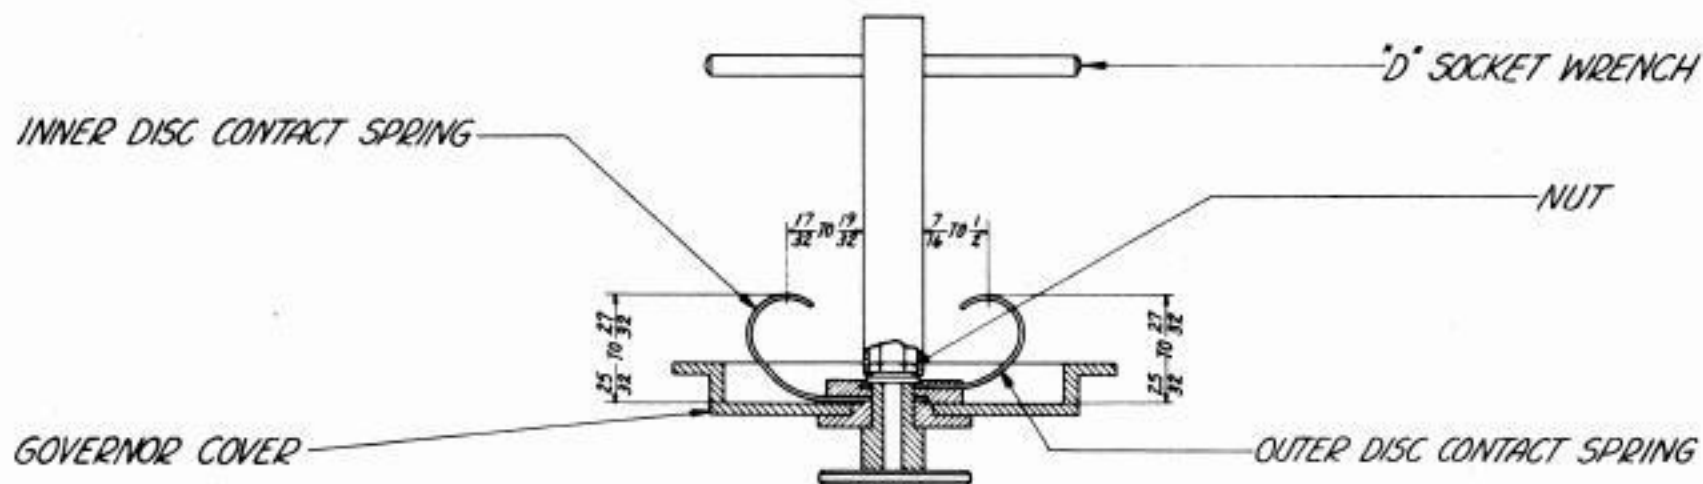
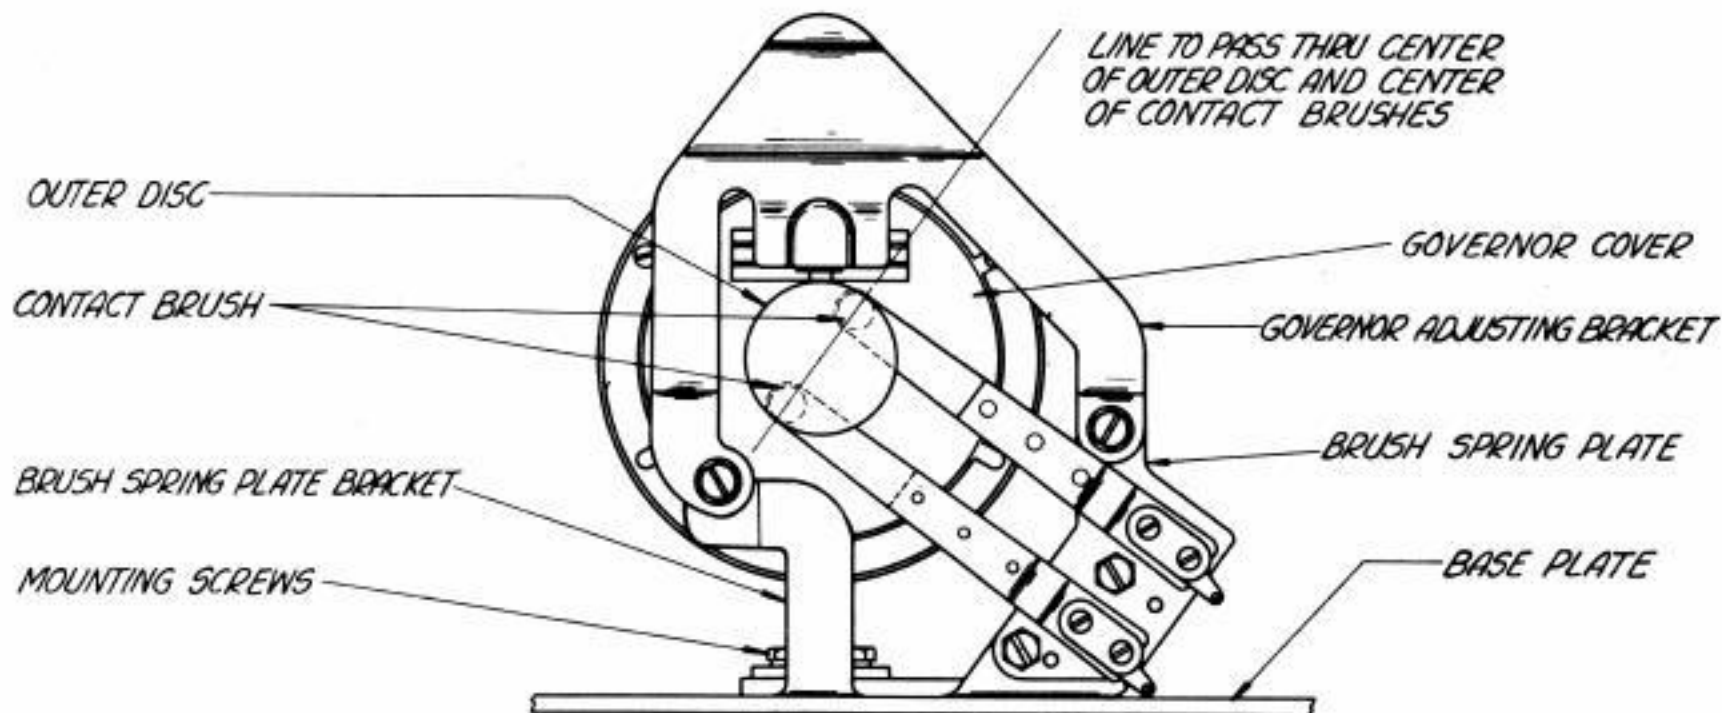

FIGURE 23
FIGURE 24
### Inner and Outer Disc Contact Spring Adjustment (Figure 23)
- (a) A line through the center of the outer disc also passes through the centers of both contact brushes (Figure 24).
On the rim of the motor flywheel is attached a speed target of alternate black and white spots (Figure 24).
To check speed, tap the fork lightly to start it vibrating. Hold the fork close to the eye and view the moving spots on the flywheel through the fork shutters. If the motor is running at the correct speed, the spots will appear to be stationary. If the motor is running fast, the spots will appear to be moving in the direction in which the motor is rotating; if slow, in the opposite direction. The motor speed may be increased by pushing against the speed adjusting lever (Figure 24) (mounted on top of the motor next to the flywheel). The speed may be decreased by pressing the governor adjusting bracket (Figure 23) toward the flywheel, so that the finger on the bracket comes into contact with the adjusting wheel on the governor.